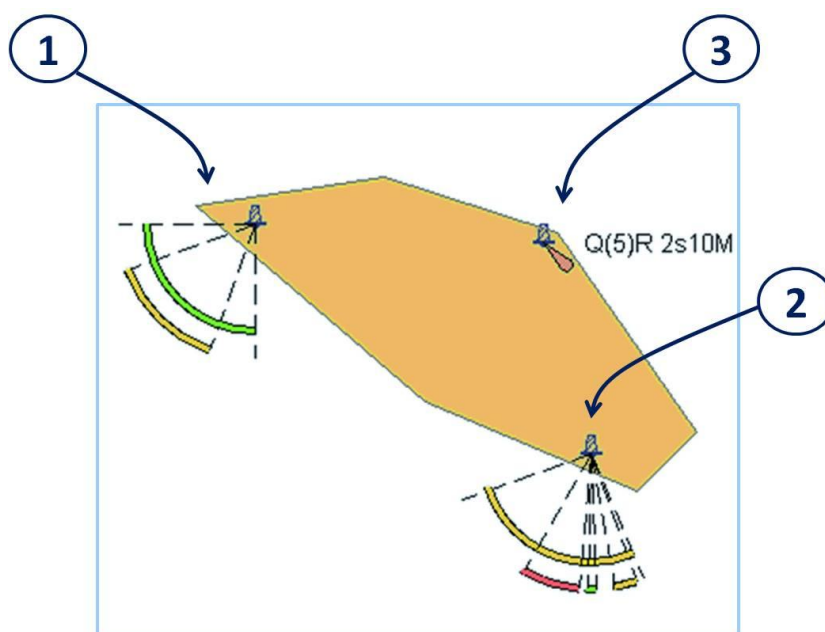

Figure 3 – Correct display of complex lights objects
1. Check 2 confirms that your system displays complex light sectors and arcs and light descriptions as intended by the IHO standards. The check ENC contains two sectored lights (1) and (2) and an all round light (3). In some ECDIS, the coloured arcs of sectored lights may be shown incorrectly. In some ECDIS, the period and range of the all round light may not be shown correctly.
– it should read: “Q(5) R 2s 10M”
3. When the display is zoomed in to an appropriate scale you should see the light symbols (1) and (2) and the light characteristics (3) exactly as shown in Figure 3:
What should you do if your ECDIS does not show the symbols as they are shown in Figure 3?